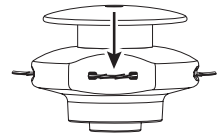

Fig. 20
5. Push the trimmer line until it lies flat against the cutting head (Fig. 20).